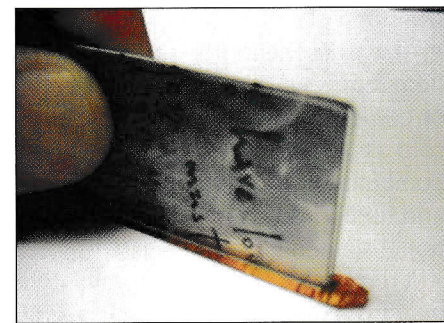

Fig. 3
3. Remove a small section of the foil's adhesive backing and center the glass in the middle of the foil (Fig. 3). Fold the foil onto the glass as you evenly wrap the edges. With your fingers, carefully fold the corners over as you reach them. Once the glass is surrounded with a foil border, burnish the foil using the burnishing tool (Fig. 4).